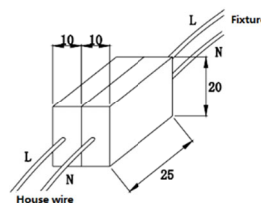

Figure 2
3. The driver of the lighting fixture comes with a lead wire, which needs to be connected to an independent terminal block (refer to the schematic diagram in Figure 2 for wiring). The size of each terminal block should not be less than 10x20x25mm.